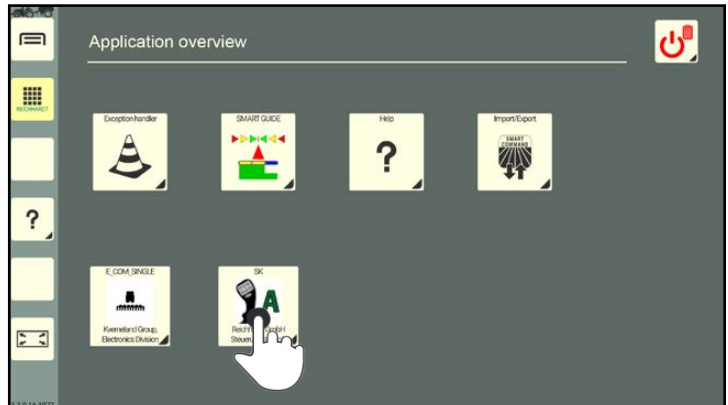

Fig. 74: Pressing and holding the application symbol in the application overview
1. Press and hold the application symbol in the application overview (see Fig. 74).